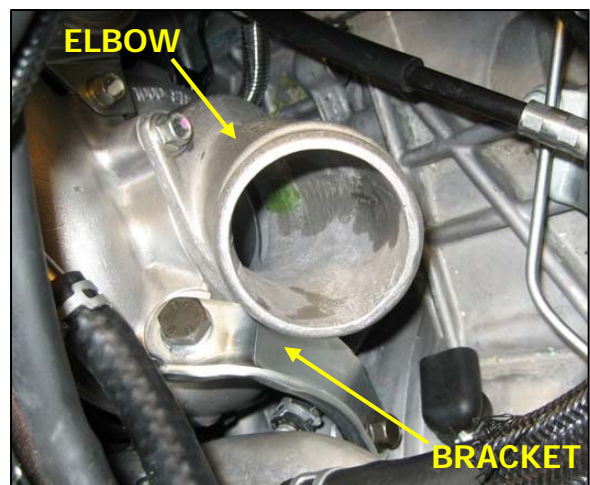

Fig. 12
13. From the driver's side, find the steel bracket that braces the compressor housing to the engine block. Remove this bracket, noting orientation. This part will be reused (2 bolts, 17mm socket/wrench). See figure 12.
14. Remove the cast aluminum inlet elbow from the compressor housing, along with its gasket. The bolts will be reused but the elbow and gasket will not (3 bolts, 12mm socket). See figure 12.